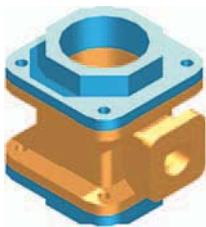

Fig. 17.8 Second example **UCS** – step 11 + rendering
11. Turn layer **0** back on and move the top into its correct position relative to the main part of the valve. Then with the **Mirror** tool, mirror the top to produce the bottom of the assembly (Fig. 17.8).